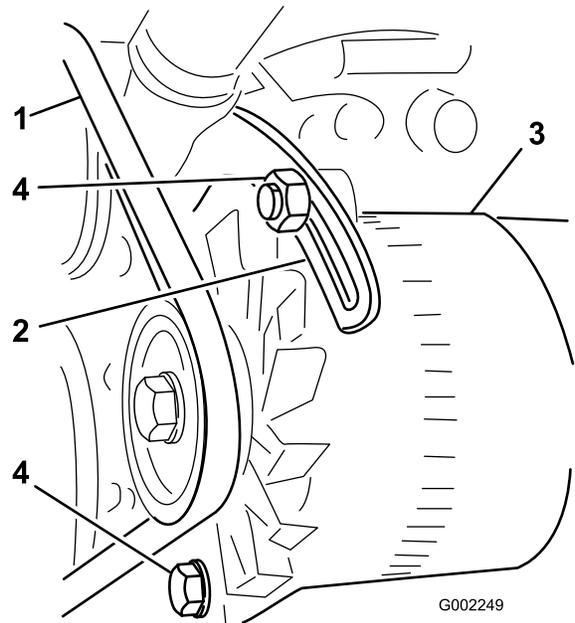

Figure 58
- Loosen the bolts that secure the brace to the engine and the bolt that secures the alternator to the brace (Figure 58).